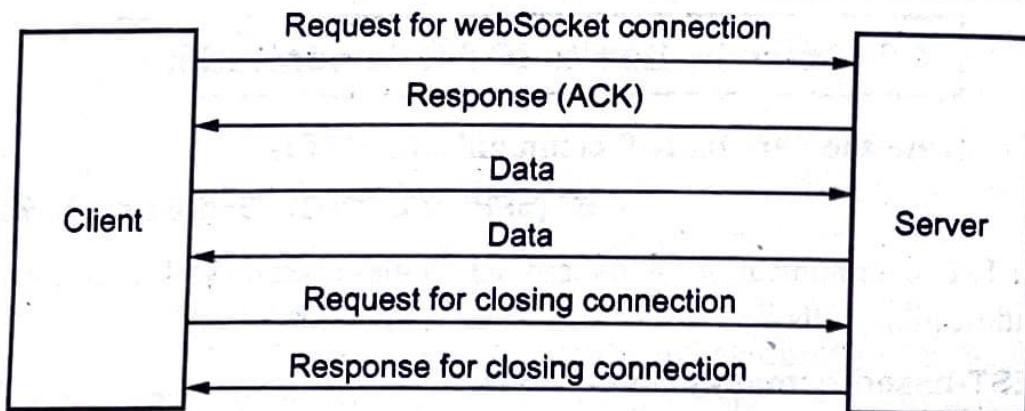

Fig. Q.9.1 Websocket model
- Fig. Q.9.1 shows WebSocket model.